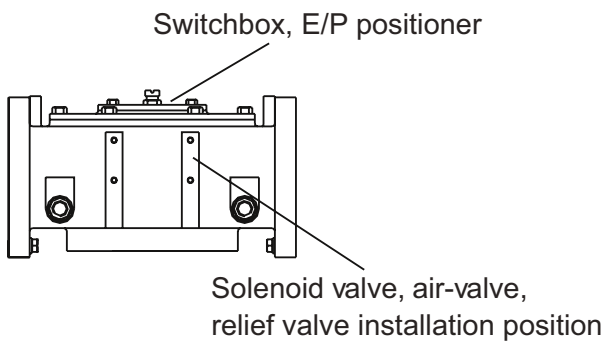

Figure 5
f. Dimensions and mounting positions of accessories refer Figure 5 to 6 below: